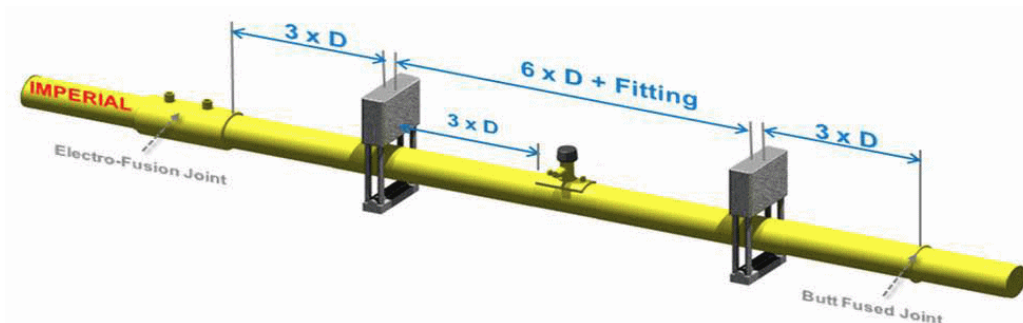

Figure 39- Minimum Squeeze-off Distances Imperial Sized Pipes
- The minimum distance between a squeeze-off tool and a pipeline heat fused fitting, electro-fusion or butt fusion joint weld for imperial sized PE80 pipe remain unchanged as shown in Figure 39.